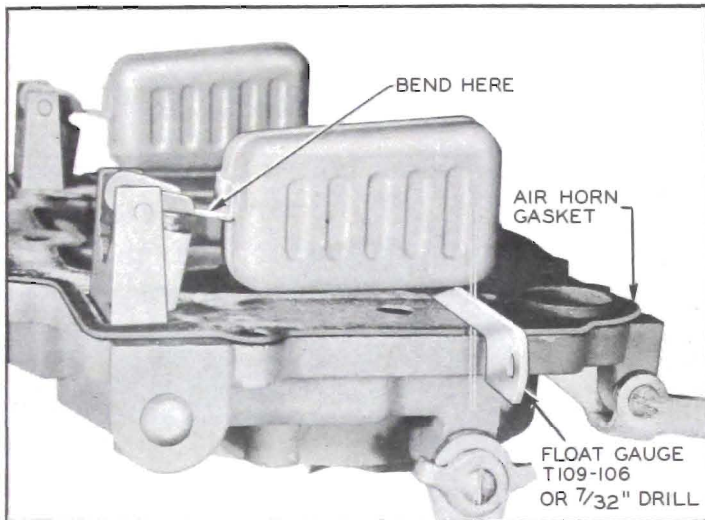

Figure 3-51—Checking Float Level
10. *Adjust Float Level.* With air horn inverted and air horn gasket in place, check clearance between each float (at outer end) and air horn gasket using $\frac{7}{32}$ " Gauge or a $\frac{7}{32}$ " drill. See figure 3-51. To adjust, bend float lever. After any adjustment, recheck float alignment.